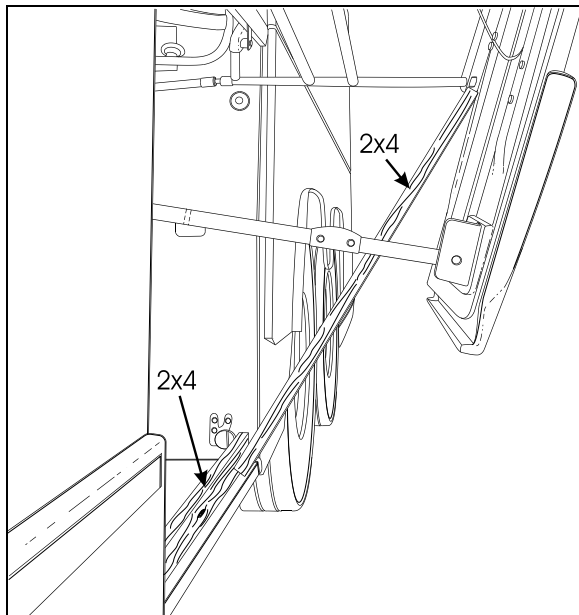

FIGURE 57: PANTOGRAPH ADJUSTMENT 18319
3. Install another piece of 2x4 between the first piece and the bottom of the pivot of the lowest (or shortest) pantograph arm, (Figure 57).